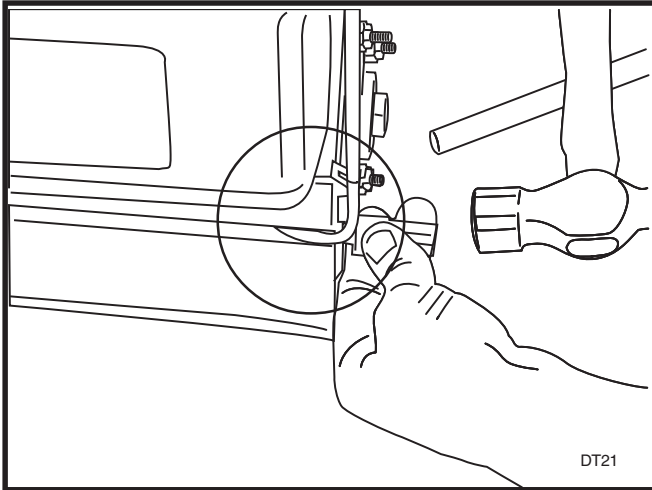

FIGURE 3
10. Re-attach rubber flap rod with push nut to the frame being sure cable is routed above flap rod. See Figure 3. (Some units use cotter pins).